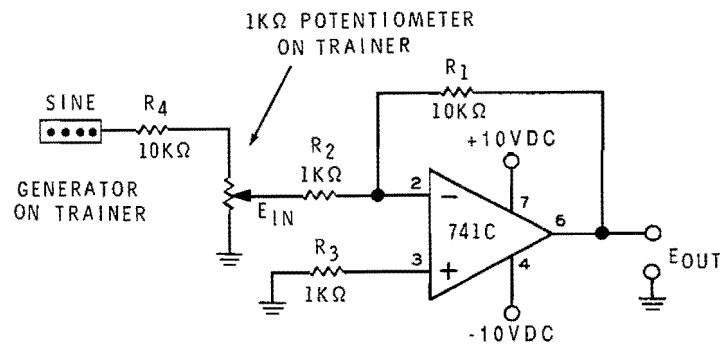

Figure 3-56
11. Construct the circuit shown in Figure 3-56.